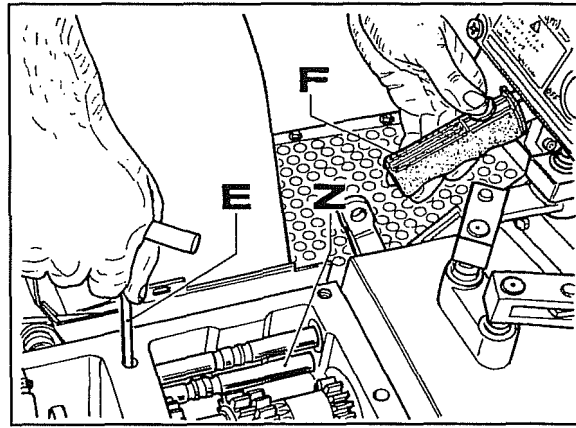

Fig. 12
- To install spring **D** and ball **C**, pre-load the spring with the special tool (**E** Fig.12) and at the same time release the PTO lever **F** Fig.12 which, thanks to its negative allowance, will shift rod **Z** backwards.